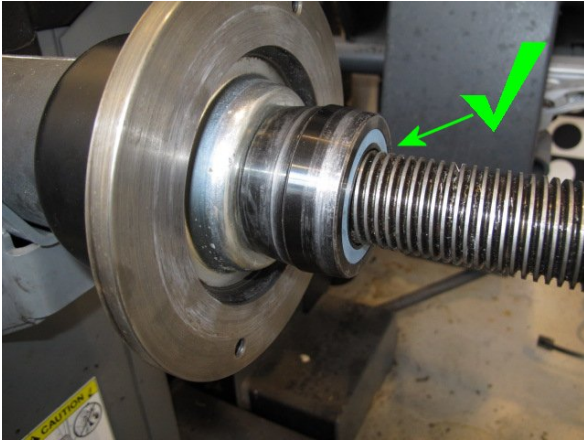

Figure 6
- The cone must be fitted on the spindle as shown in Figure 6 ensuring the light Blue face of the cone is facing towards the end of the spindle